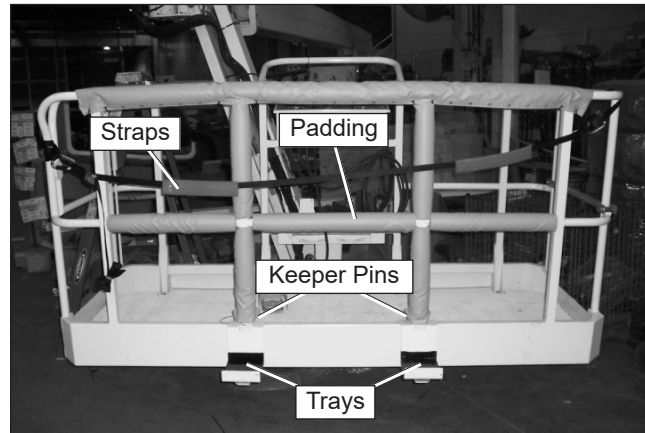

Figure 7.17 – Platform Glazier Package
- Inspect the glazier trays (refer to Figure 7.17) and keeper pins to make sure they are in good condition and are not bent or distorted. The straps and padding must be in good condition and not worn, cut or frayed.